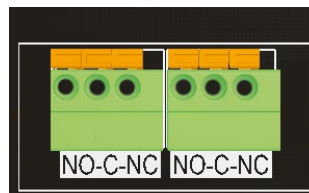

Figure 7. Alarm Contact Detail
9.5 Form C Relay Contact Outputs. The center of the back panel has connections to the Form C relay contact outputs for connection to external audible or visual alarm circuits. See Figure 7 below.